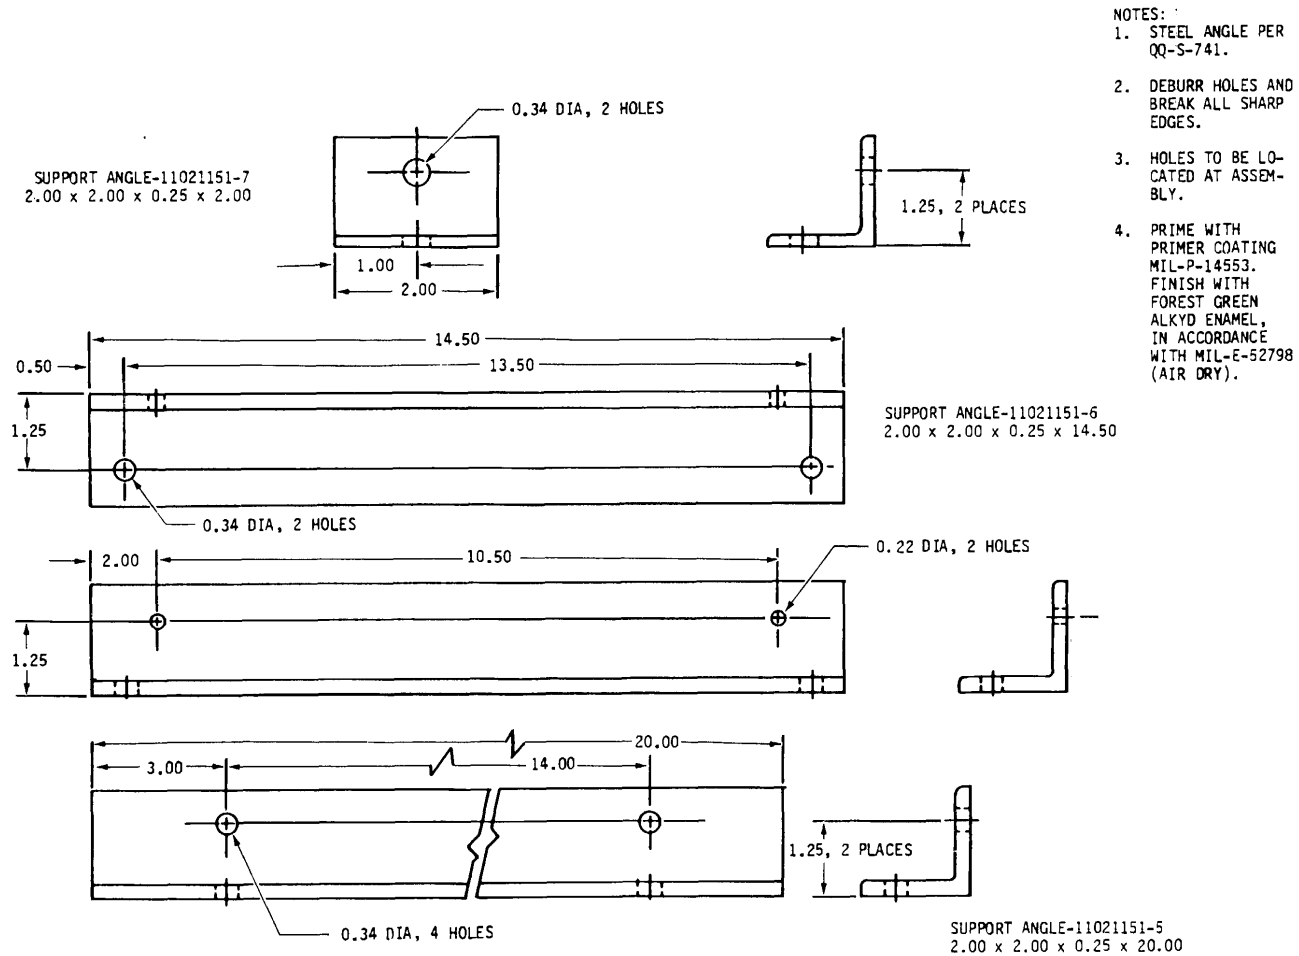

Figure 10. Dimensions for Support Angles, 11021151-5, 11021151-6, and 11021151-7.
**All wood parts are to be made from 3/4-in. exterior plywood, group B, PS-1, Type C, in accordance with specification NN-P-530. Support angles are to meet dimensions specified in figure 10.**